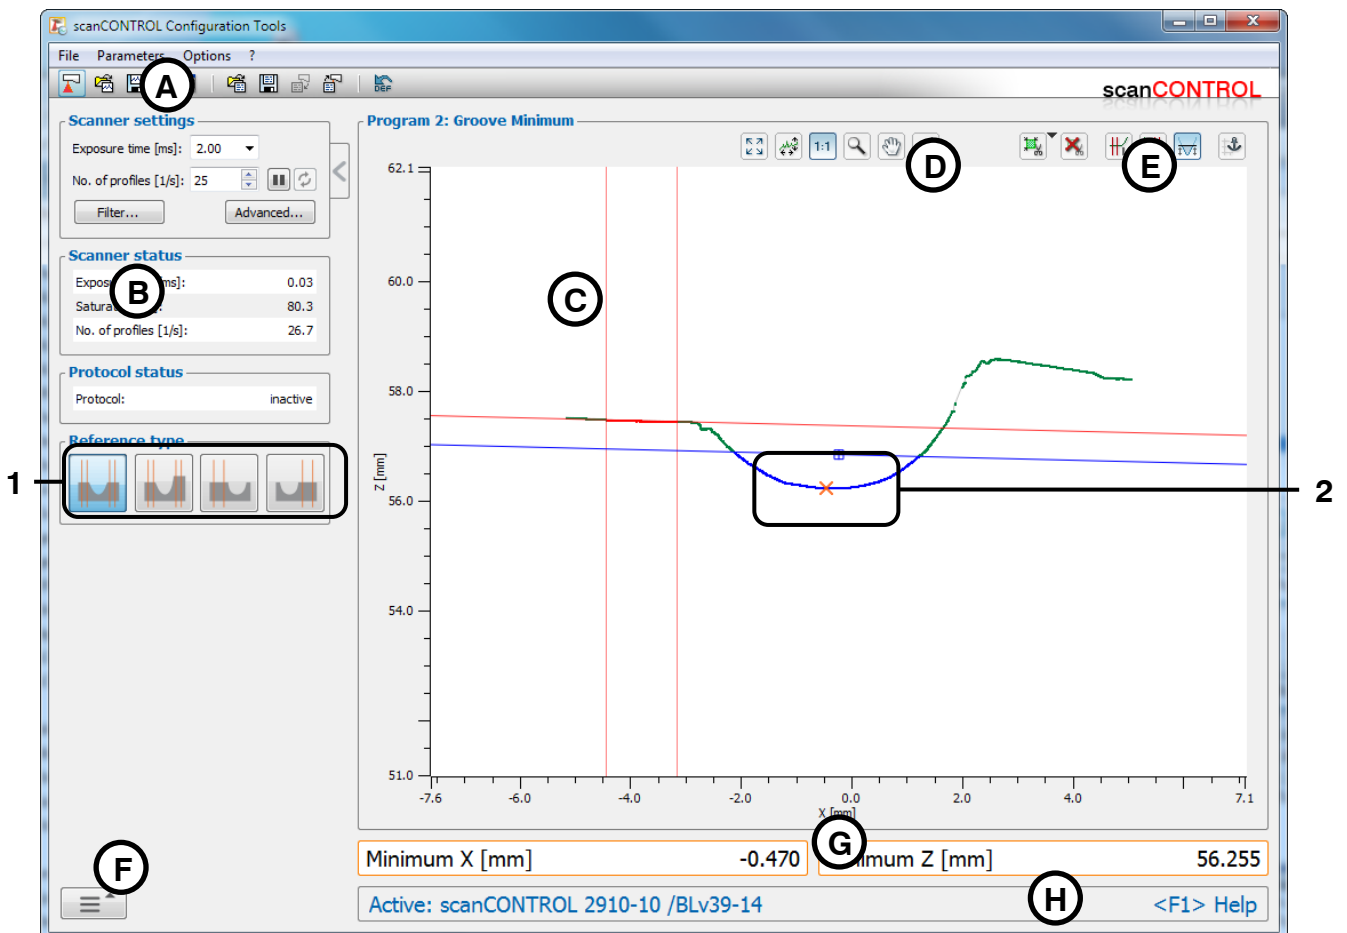

Fig. 4.32: "Groove Minimum" measuring program
- Define the type of the deepening (see Fig. 4.32 and Chapter 3.13.1):